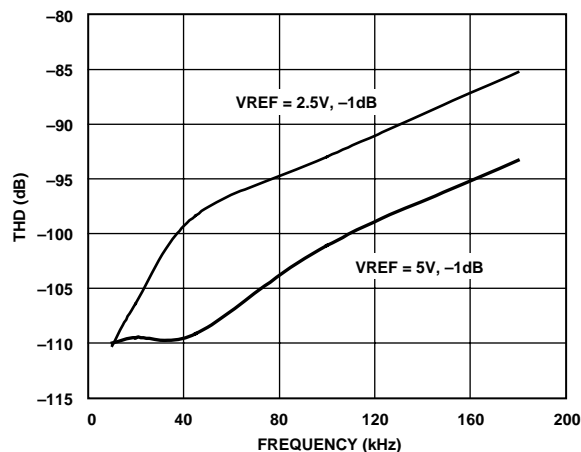

Figure 15. THD vs. Frequency
- For ac applications, the driver needs to have a THD performance commensurate with the AD7684. Figure 15 shows the THD vs. frequency that the driver should exceed.